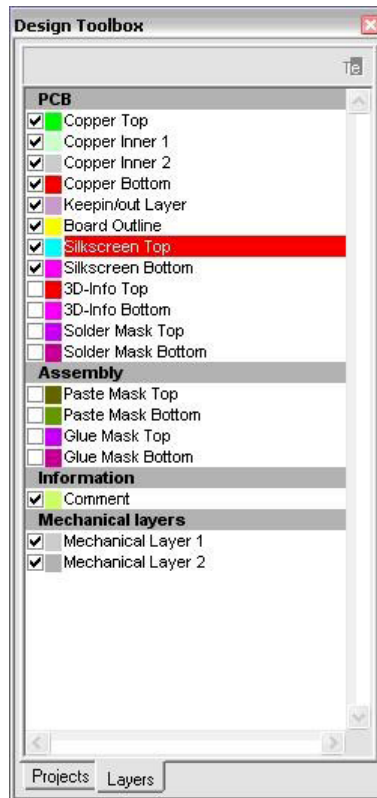

Figure 18 - Design Toolbox
a.) In the Design Toolbox (Figure 18) double-click on the Silkscreen Top to make that particular layer active. This will highlight the layer in a red.
a.) In the Design Toolbox (Figure 18) double-click on the Silkscreen Top to make that layer active. This